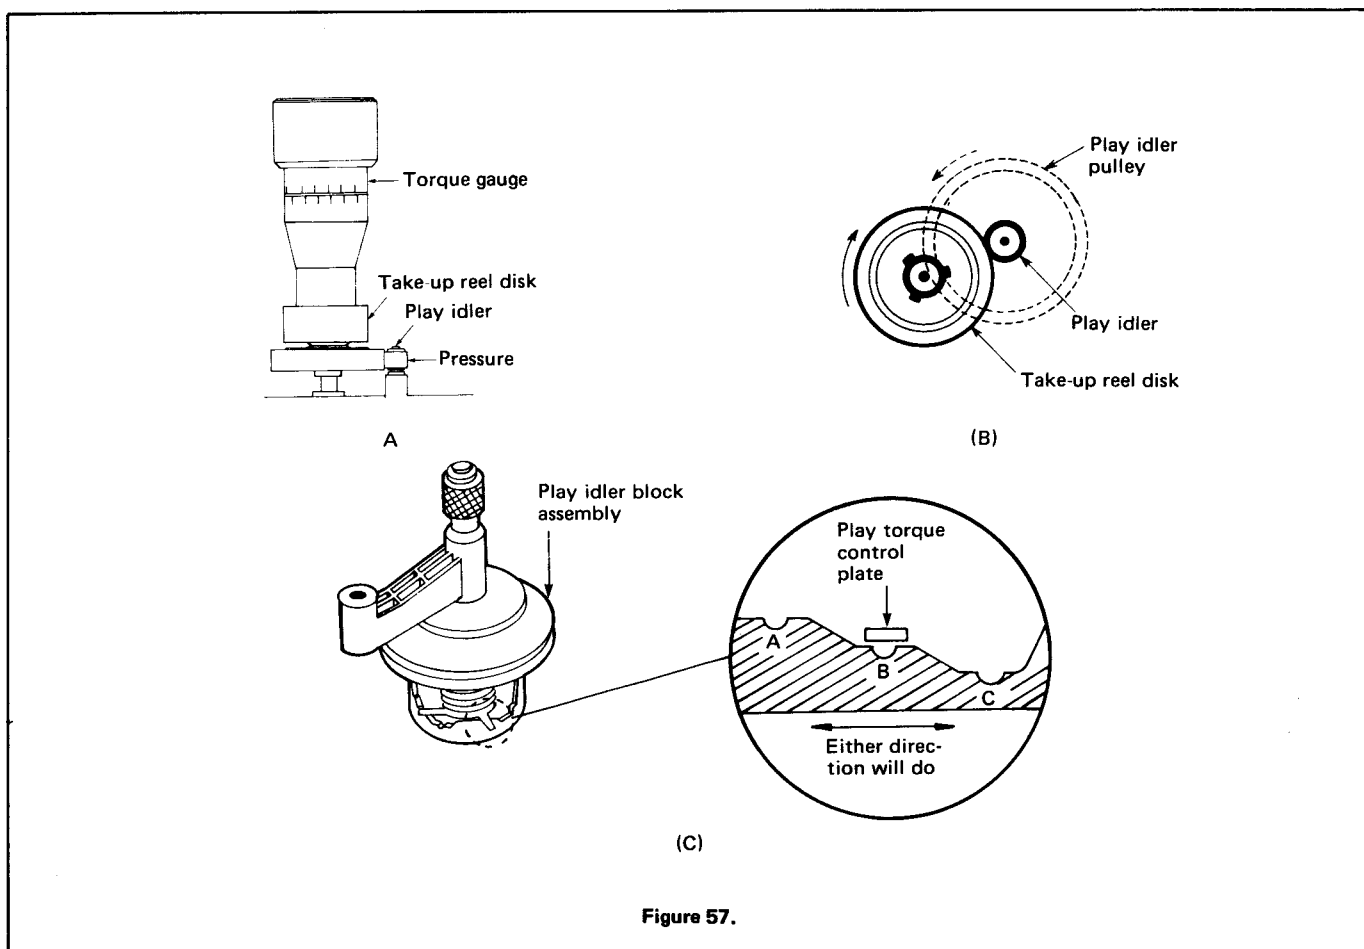

Figure 57.
2. Set the torque gauge on the take-up reel disk and depress the play button. See Fig. 57-(A).
the same speed; check that the meter indication is at the specified range of 100 to 150 gr. cm. See Fig. 57-(B).
1. If the playback torque (play idler torque) is not within 100 to 150 gr. cm, adjust the play torque control plate to obtain the proper value. See Fig. 57-(C).
2. At the A position, the play torque control plate gives the higher torque; at the C position, it gives the lower torque. The plate must be set securely. See Fig. 57-(C).